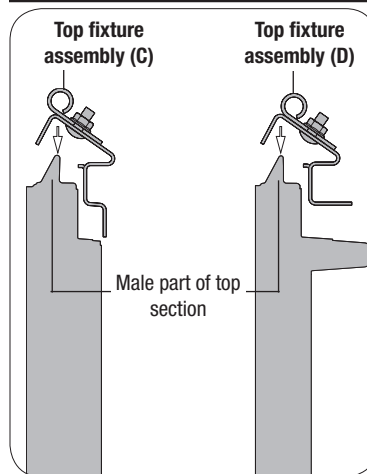
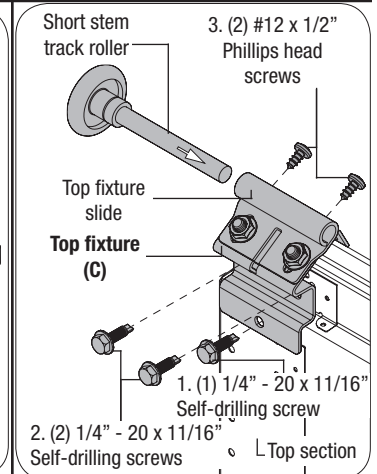
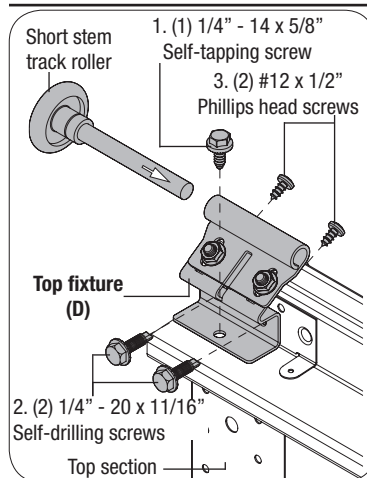

FIG. 3.3
FIG. 3.4
FIG. 3.5
**NOTE:** The LHR top fixture comes pre-assembled, as shown in **FIG. 3.4** or **FIG. 3.5**. Locate the edge of the top section and seat the top fixture on male part of the top section, as shown in **FIG. 3.3**.
Insert a short stem track roller into the top fixture slide, as shown in **FIG. 3.4**. Repeat the same process for the other side.
Insert a roller into the top fixture, as shown in **FIG. 3.5**. Repeat the same process for the other side.